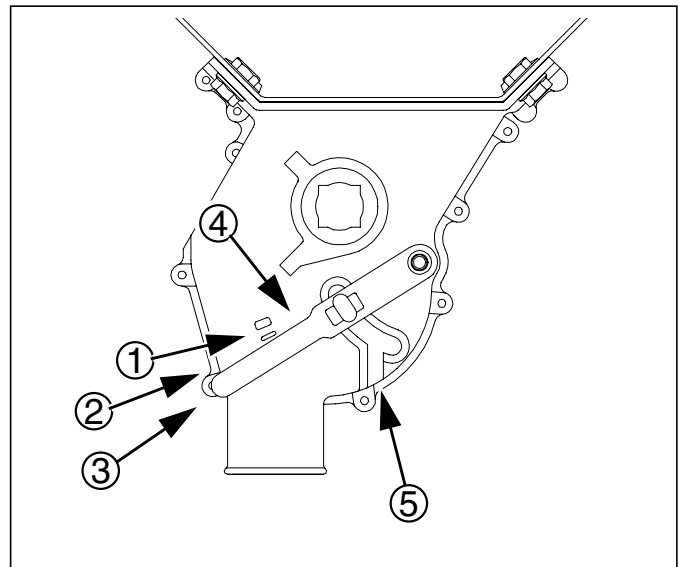

Figure 31
*Refer to Figure 31*
*which depicts the seed cup door handle in position ③.*